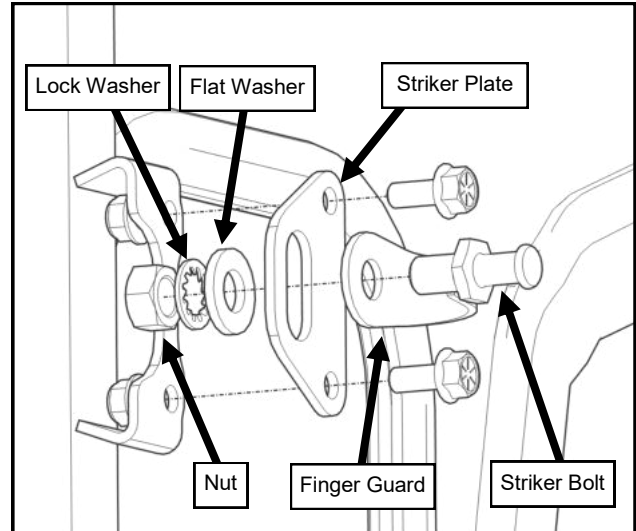
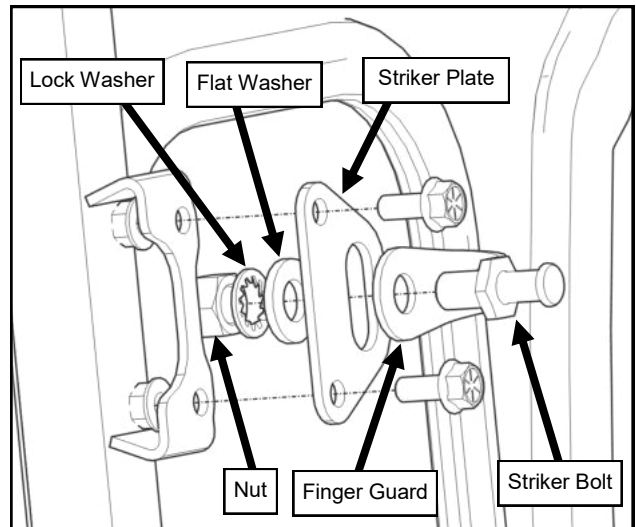

Fig. 19.1A (Door Striker OUTSIDE for Steel Doors)
Fig. 19.1B (Door Striker INSIDE for Vinyl Hinged Doors)
**19.1** Install the striker plate to the A-pillar mounting bracket with the large slot to the outside for the steel doors (see Figure 19.1A) or to the inside for the vinyl hinged doors (see Figure 19.1B)
**19.2** Install the striker parts oriented as shown in Figure 19.1A or 19.1B. Note the finger guard should always be oriented toward the inside of the cab.